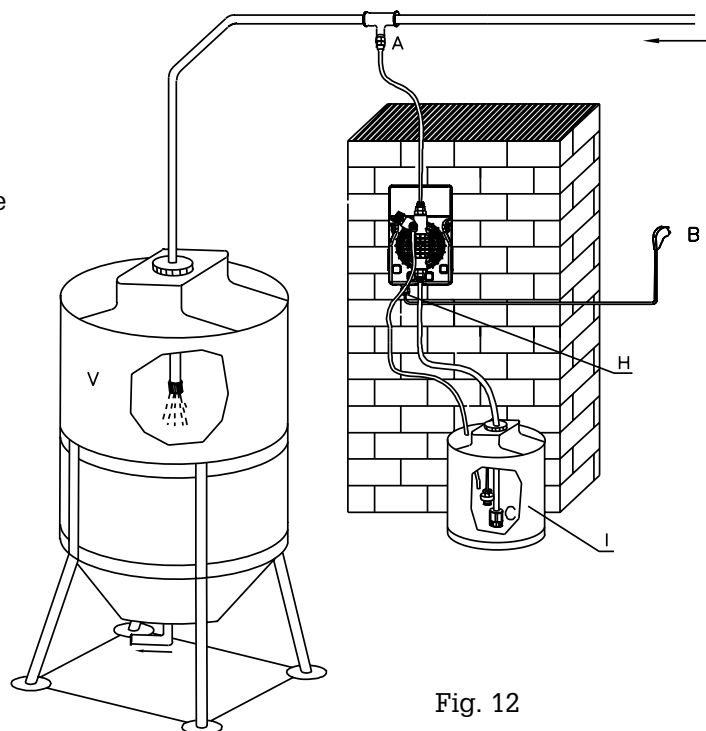

Fig. 12
6.3 - SCHEMA D'INSTALLATION TYPE (FIG. 12)